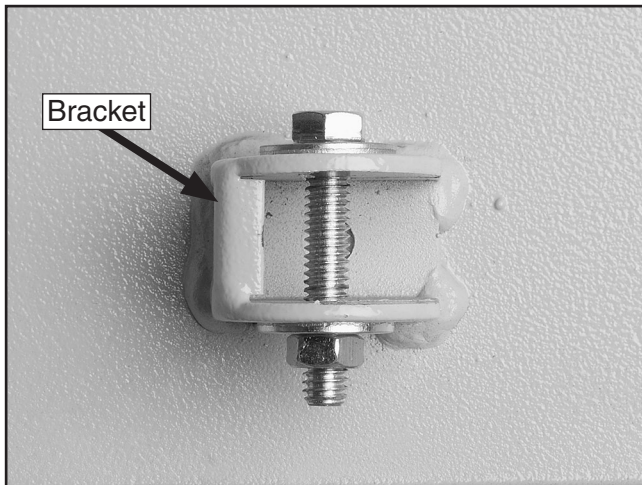

Figure 13. Work table bracket.
1. Place the work table upside down on a flat surface and remove the hex bolts, hex nuts and flat washers from the work table brackets (see **Figure 13**).